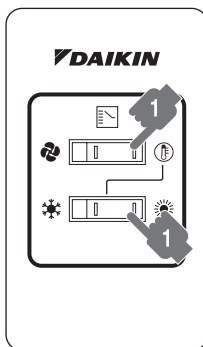

figure 7.2
- “ ❄️ ” “ ☀️ ” Heating operation (Refer to figure 7.2)